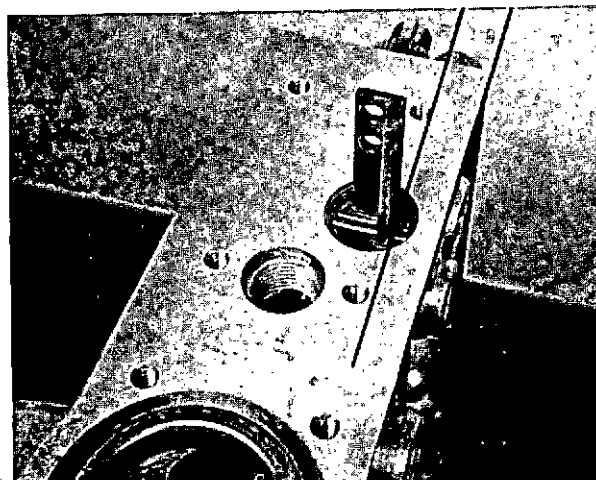

Fig. 31 Alignment of control rack.
8. Enter the control rack, with its guide block and travel limiting pin, from the governor end (fig. 31), aligning the vertical guide with the edge of the pump housing as shown.